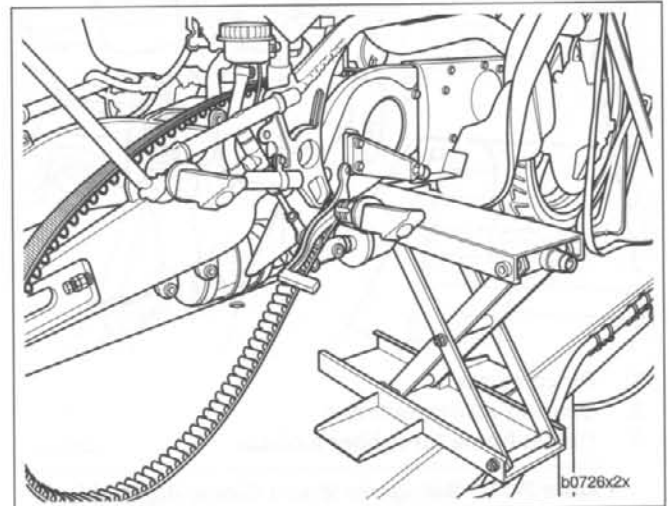

Figure 2-111. Scissors Jack (Typical)
12. See Figure 2-111. Place a jack under the crankcase.